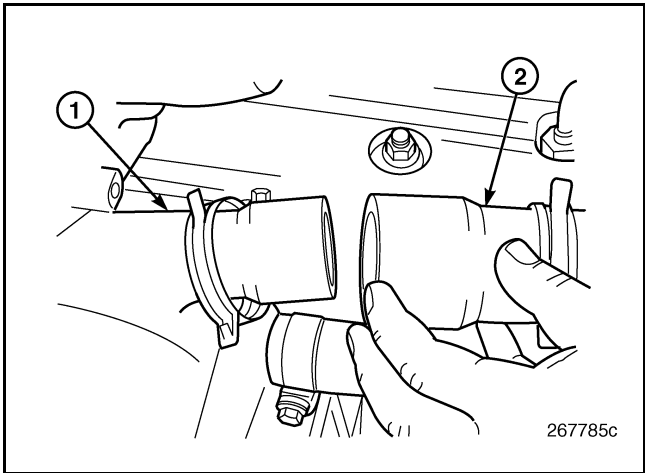

Figure 486 — Cool Tube Coupling Hose Removal
4. Remove the cool tube and coupling hoses from the engine (Figure 486). Inspect the tube for corrosion or damage and the hoses for deterioration. Replace as required.